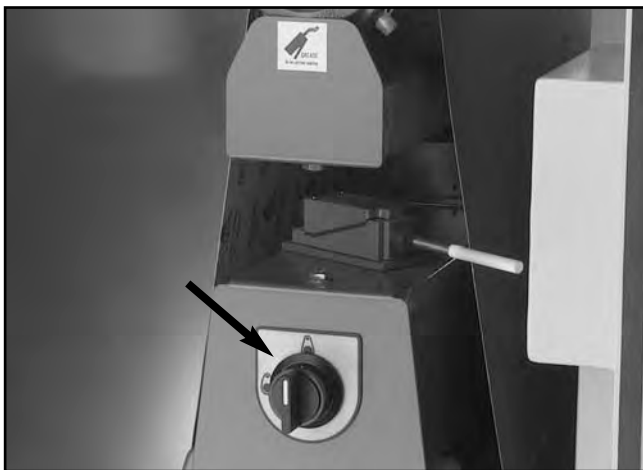

Figure 21. Roller tension switch.
2. Plane (2) 36" long 2x4's to a uniform thicknesses. Place one board along the length of the feed belt on the right-hand side and place the other board on the left-hand side.
3. With the sanding belt tensioned (**Figure 21**), grab the edge of the sanding belt and move it up and down about an inch or so. At the same time, manually raise the table until you just hear the sandpaper make contact with the surface of the wood. **DO NOT** continue to raise the table beyond that point.